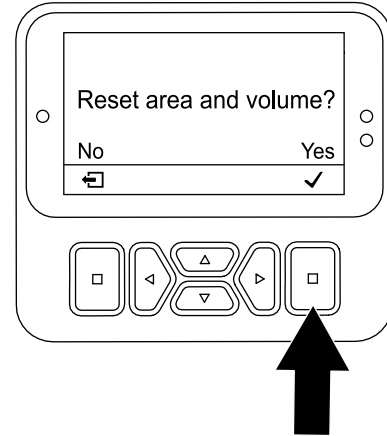

Figure 101
5. In the RESET AREA AND VOLUME SCREEN, press the select button (Figure 101).